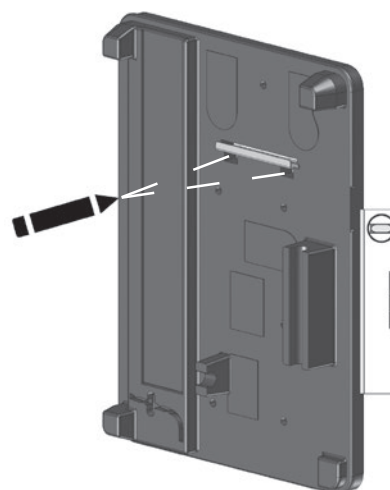
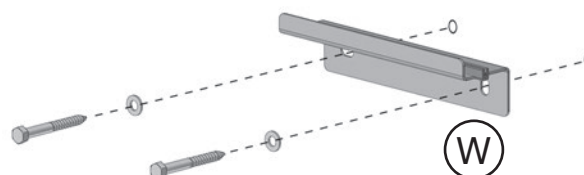

Fig. 4.3: Use the rear insulation shell as drilling jig for the angled wall bracket
Fig. 4.4: Fix the angled wall bracket onto the wall
5. Hold the rear insulation shell (U) with the angled wall bracket (W) against the wall in a vertical position and use it as drilling jig (Fig. 4.3)
6. Mark two drill holes for the angled wall bracket (W). Remove the rear insulation shell (U) with the angled wall bracket (W), drill the holes and equip them with dowels.
7. Remove the angled wall bracket (W) from the rear insulation shell (U) and fix it onto the wall with the help of the supplied two screws M 8 x 70 and washers (Fig. 4.4).